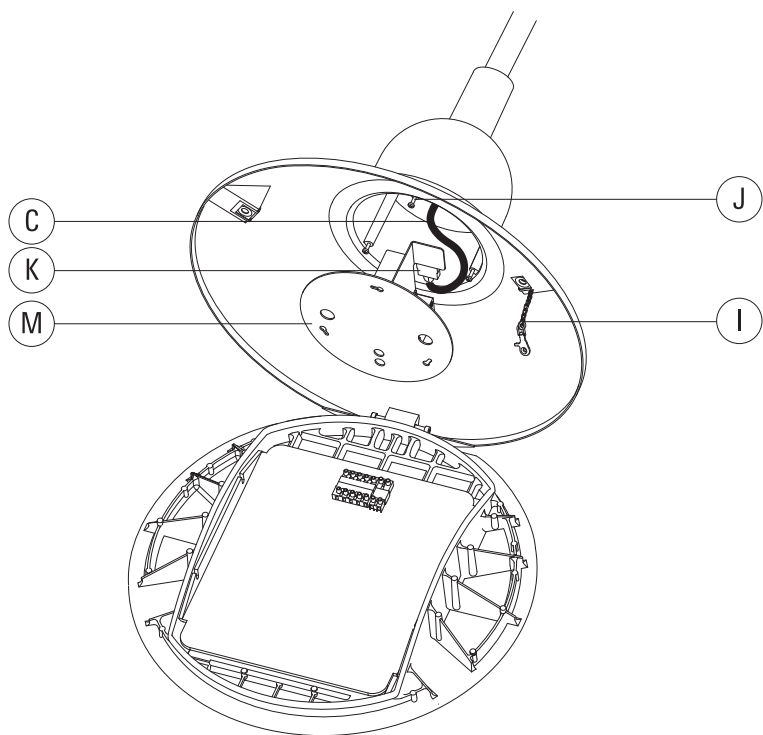

Fig. 2
- 9) Open the luminaire (Fig. 2) by loosening the screws **L**. Carefully unhook the lanyard **I**.